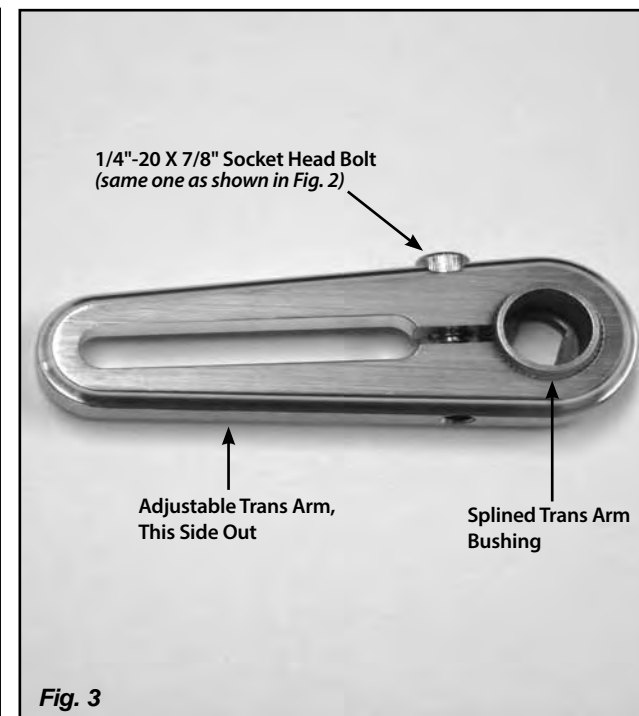
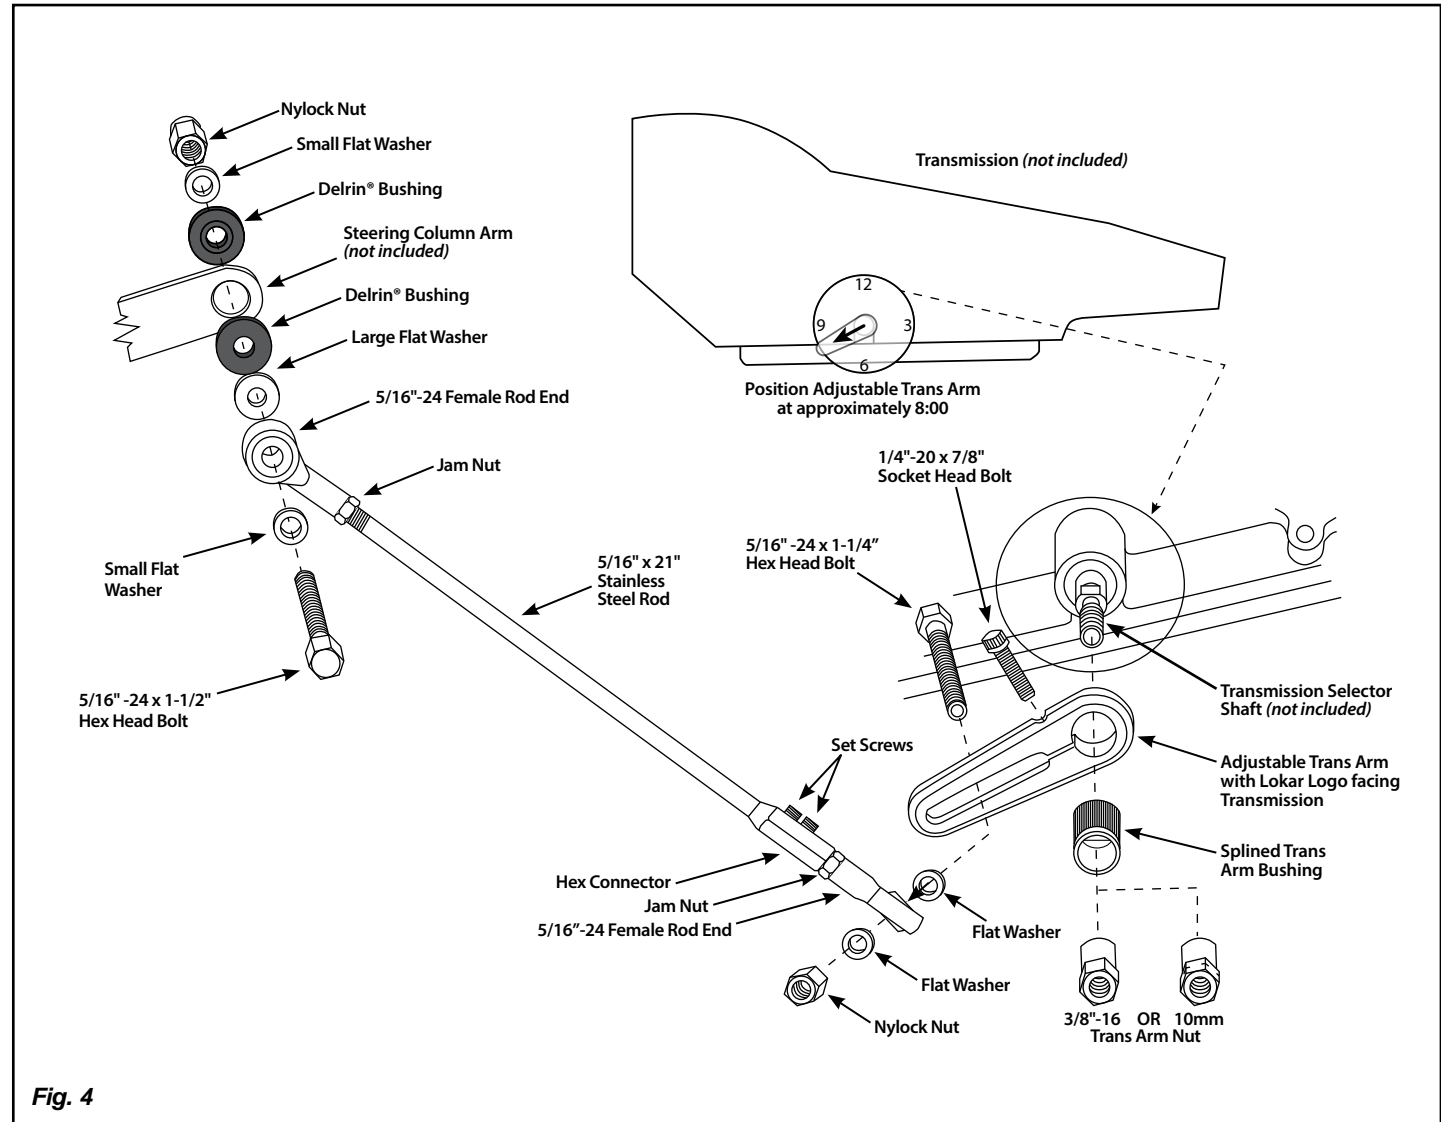

Fig. 3
Fig. 4
Step 3: Install the adjustable trans arm onto the splined trans arm bushing at approximately the 8:00 position as a starting point, with the "LOKAR" logo facing the transmission. See Fig. 2, Fig. 3 and Fig. 4. The positioning varies per application, and it may be necessary to reposition the arm in order to be able to get the transmission into all gear positions.
Install a small flat washer onto the 5/16"-24 x 1-1/2" bolt. Then slide the bolt through the 5/16"-24 female rod end. Next install the large diameter flat washer onto the bolt, and one Delrin® bushing facing the proper direction. Insert the bolt through the steering column arm, and then install the other Delrin® bushing and small flat washer. Secure it all using the 5/16"-24 nylock nut as shown in **Fig. 4**.
Step 8: Slide the hex connector with the second 5/16"-24 female rod end onto the end of the stainless steel rod. Attach the rod end to the adjustable trans arm with the 5/16"-24 X 1-1/4" hex head bolt, two flat washers, and nylock nut as shown in **Fig. 4**. Tighten the nylock nut. Tighten the set screws in the hex connector using a 1/8" hex wrench, but only enough to mark the stainless steel rod and hold the hex connector in place during the adjustment procedure.